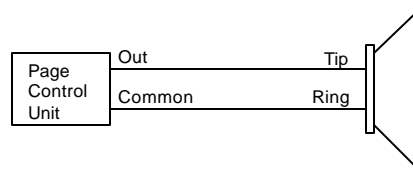

FIGURE 1
- Connect station or other suitable wire to proper speaker terminals per Figure 1.